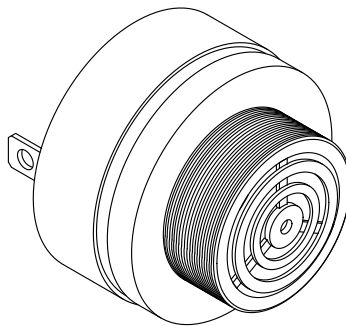

Figure 4. Buzzer
- (3) The buzzer (i.e., horn) provides an audible alert when the ELT is active. See "Figure 4. Buzzer".